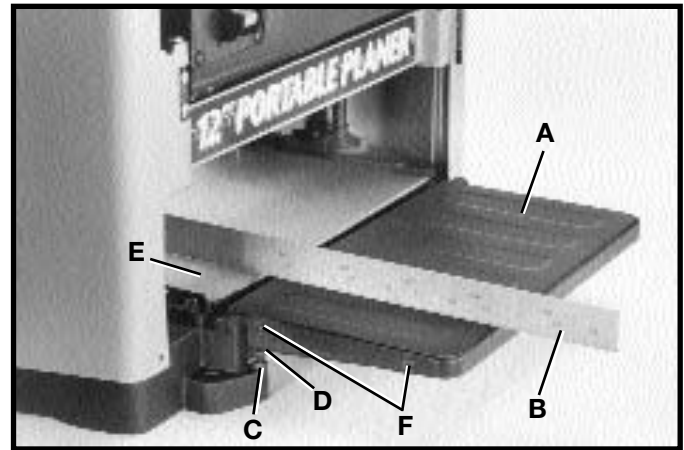

Fig. 17
For optimum performance, the extension tables, one of which is shown at (A) Fig. 17, must be level with the planer table. To check the extension tables and adjust if necessary, proceed as follows:
1. Place a straight edge (B) Fig. 17, on the infeed extension table (A) with one end extending out over the extension table as shown. Check to see if the infeed table is level with the planer table on both ends of the extension table.
2. If an adjustment is necessary, loosen locknut (C) Fig. 17, and adjust stop screw (D) on each side of the extension table (A) until the extension table is level with the planer table (E); then tighten locknut (C). Recheck and make certain inside edge of table extension is perfectly level with the planer table. If necessary, loosen two screws (F), adjust extension table and retighten two screws (F). Adjust opposite side of the table in the same manner. Make certain the extension table is solidly supported when there is downward pressure on the table.